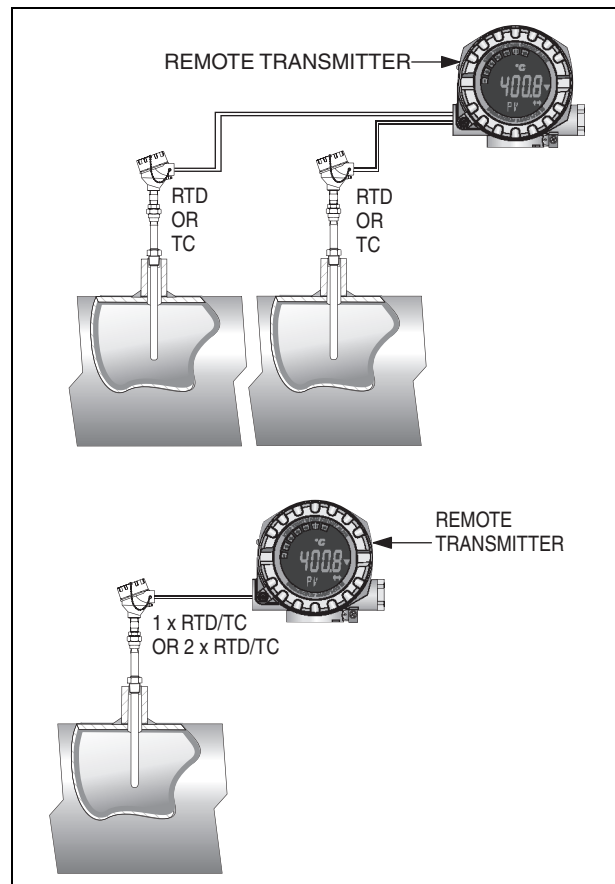

Figure 1. Typical Installations
The Model RTT30 Intelligent Temperature transmitter is a universal and configurable temperature field transmitter with either one or two temperature sensor inputs for resistance thermometers (RTD), thermocouples (TC) and resistance and voltage transmitters. It is a full-featured, 2-wire transmitter with HART communication protocol. Digital output signals are provided in addition to an analog 4 to 20 mA output signal. Remote communication is provided with a HART Communicator or PC-based configurator. Input signals are received from RTDs and thermocouples, and also from resistance and millivolt sources. There can be two measuring inputs in 2-, 3-, or 4-wire connections (i.e., two 3-wire RTDs, or one 4-wire RTD and one TC), and the transmitter is mounted in a remote location. A backlit LCD Indicator can be provided that shows the current value digitally and as a bar graph with an indicator for alarms. See Figure 1 for typical installations, and also see the Backlit LCD Indicator paragraph and Figure 3 further in this document.